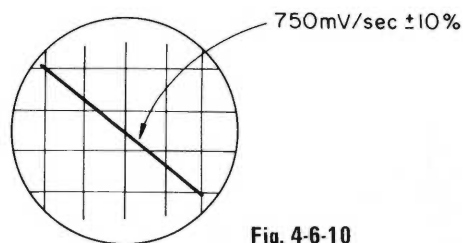

Fig. 4-6-10
- 3) Under the condition, make sure that a diagonal line on the scope is within 750mV/sec  $\pm$ 10% as shown in Fig. 4-6-10.
- 4) Check inclination of the waveform appearing on the oscilloscope at this time is 750 mV/sec  $\pm$  10% as shown in Fig. 4-6-10.